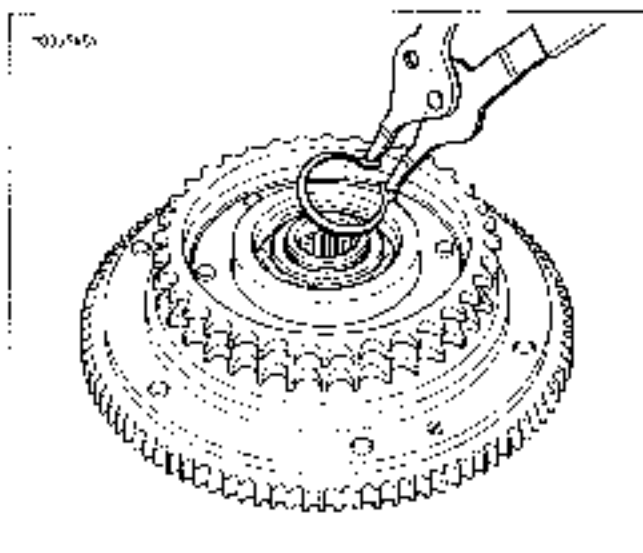

Figure 6-19. Clutch Hub Retaining Ring
2. See Figure 6-19. With the sprocket side up, remove retaining ring from clutch hub groove.
- 4 See Figure 6-19. Turn assembly over so that the sprocket side is up. Install retaining ring in groove of clutch hub.